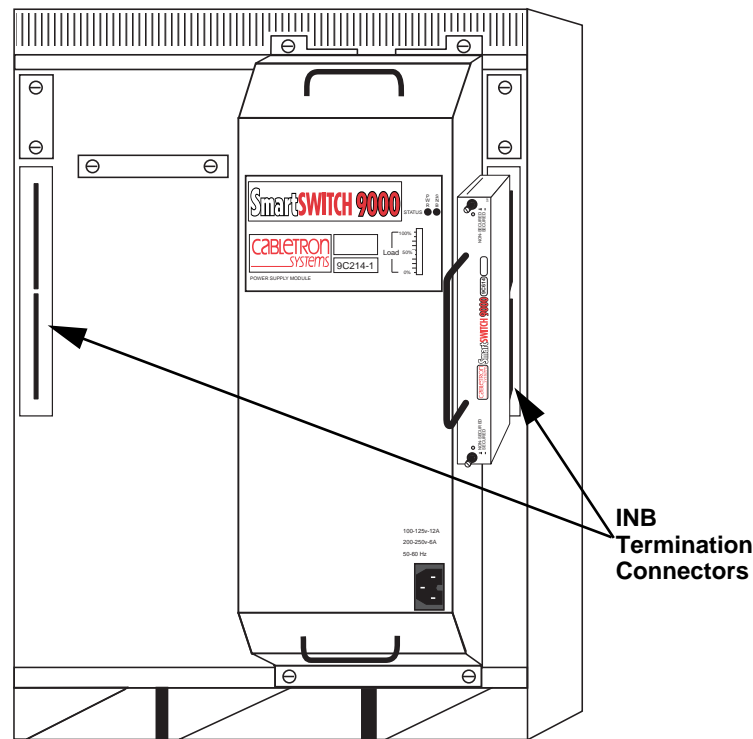

Figure 1-7. Attaching the INB Terminator Modules
2. Hold the INB Terminator Module by the handle and line up the screws that extend from the module with the screw holes in one of the INB Termination Connectors on the rear of the SmartSwitch 9000 chassis (Figure 1-7).